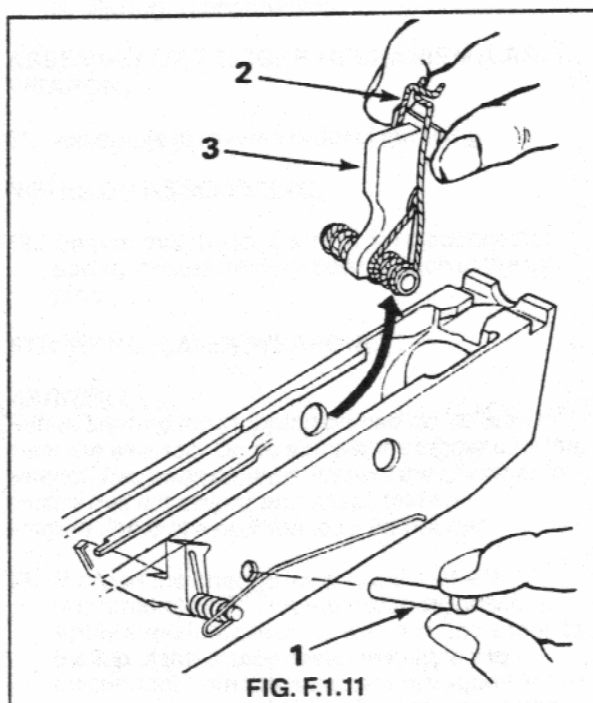

FIG. F.1.11
- 9. Withdraw hammer axis pin while disconnecter spring is being pressed down. Remove the hammer complete with the hammer spring through the opening in the rear of the receiver. See Fig. F.1.11.